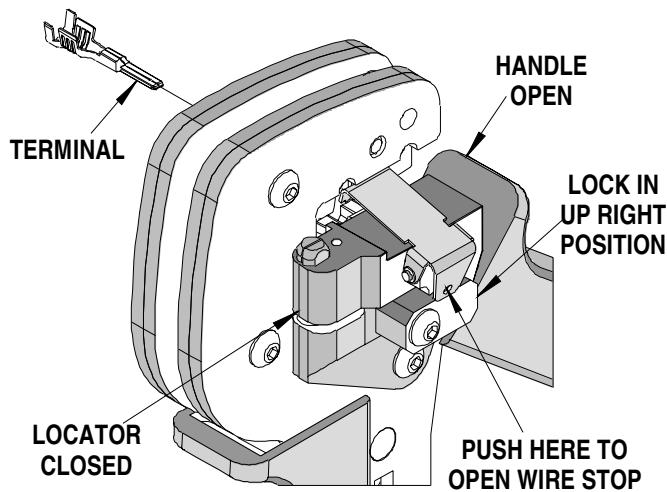

Figure 1
1. To raise the wire stop, press the tab on the wire stop as shown in Figure 1. Insert the proper terminal into the nest opening and release the wire stop to lower it.